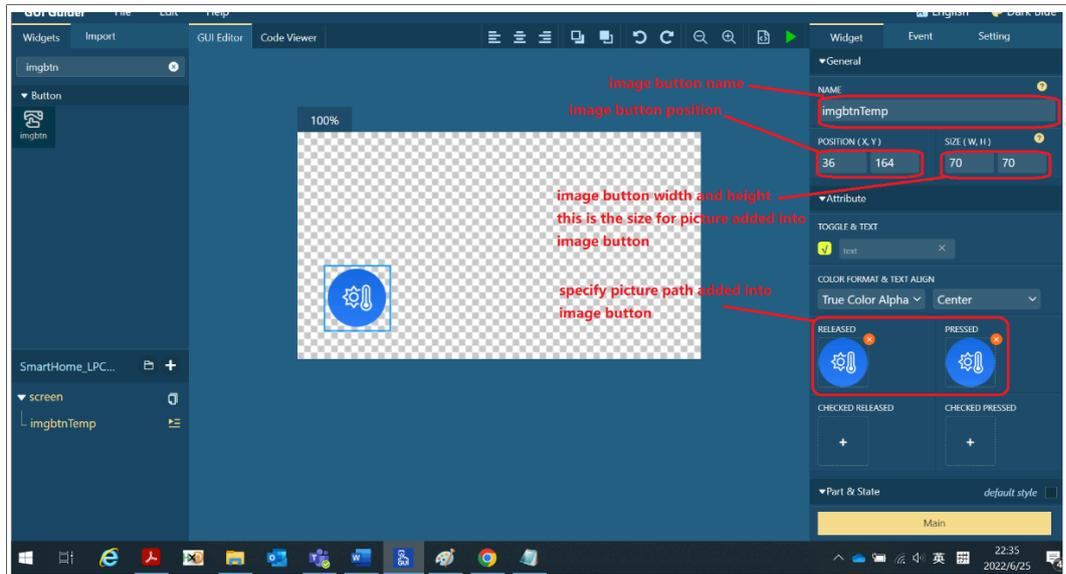

Figure 14. Set image button properties
2. Once the image button is placed in the workspace, set the properties of the image button, as shown in Figure 14.